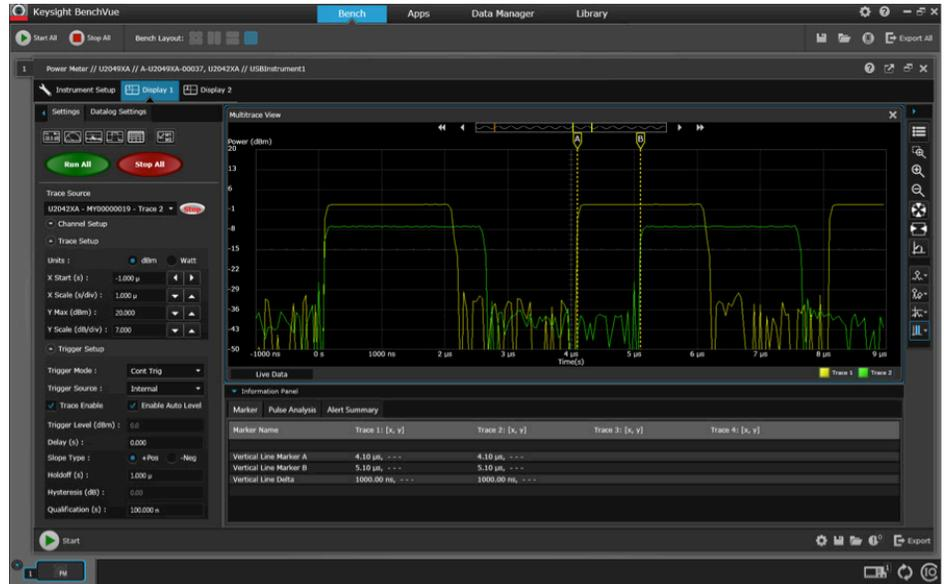

Figure 23. Vertical line marker indicates the time separation, 1 μ s between two pulses
34. View the time separation between two pulses (See Figure 23)